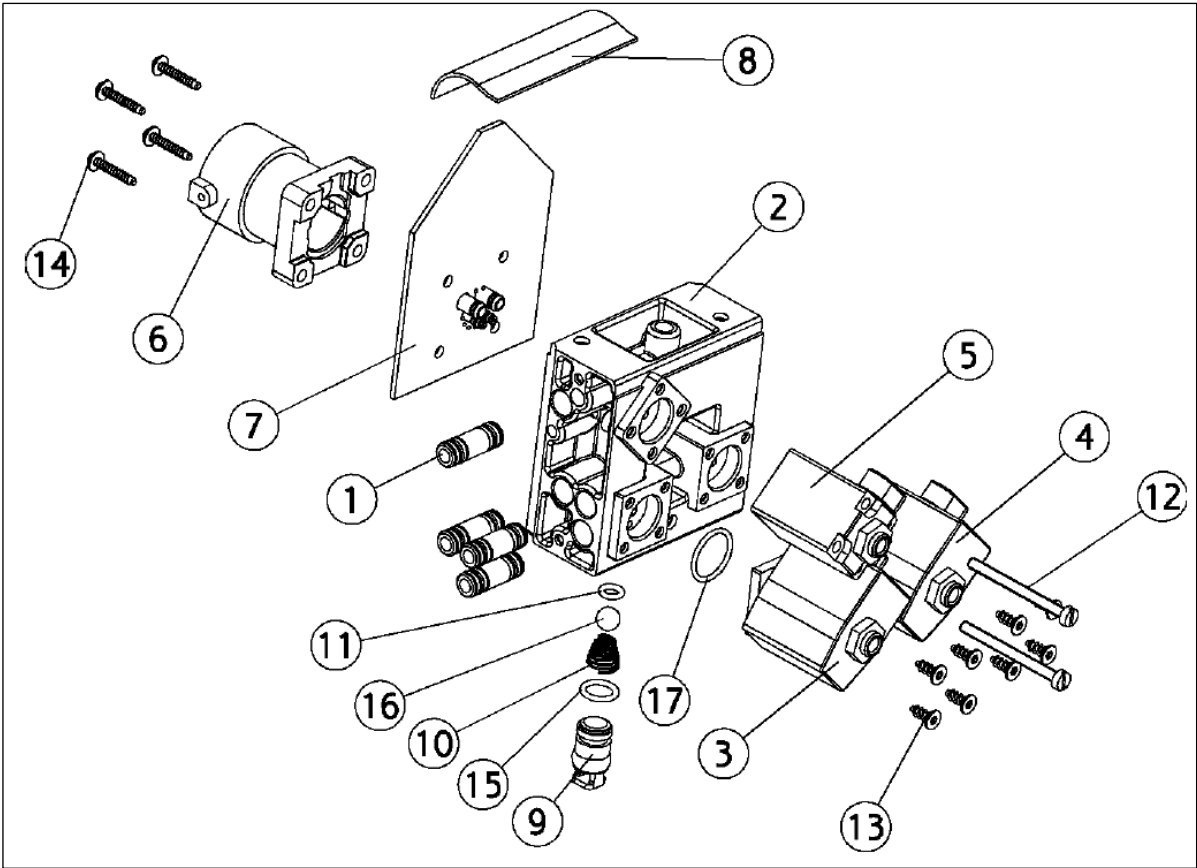
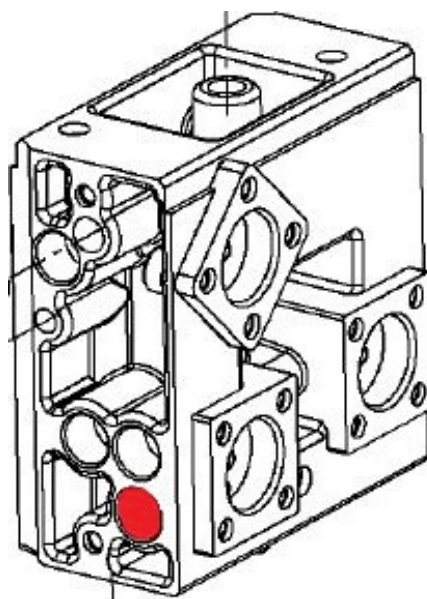

Figure 7
Figure 8
C12	Remove the entire instrument block assembly from the bridge and replace the O-rings (MR-202) – See (1) in Figure 7 - in the water-carrying channels (marked with red in Figure 8) between the instrument blocks. Add a thin layer of YR-032 Paraliq grease to the O-rings.